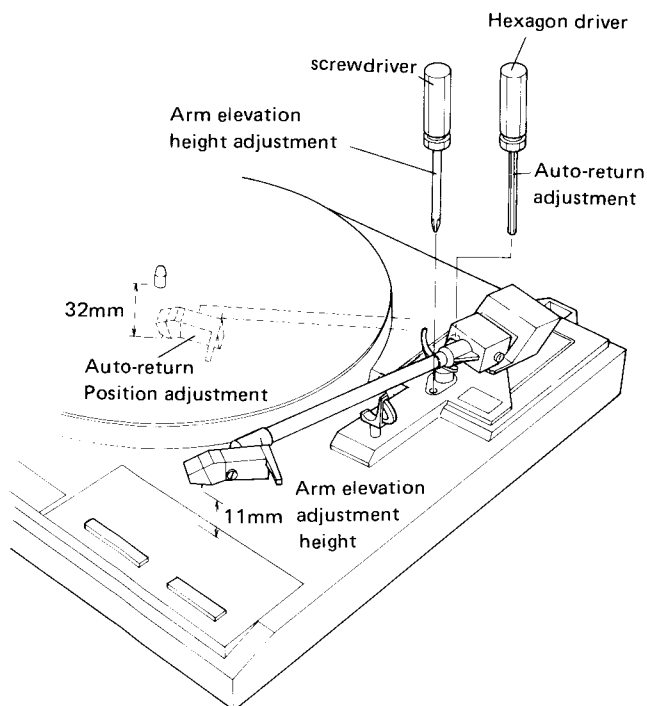

Fig. 10-1 Arm elevation height adjustment and auto-return adjustment
5. Stop turning the adjustment screw at the point at which there is a space of 32 mm between the cartridge stylus and the center shaft. (Fig. 10-1)